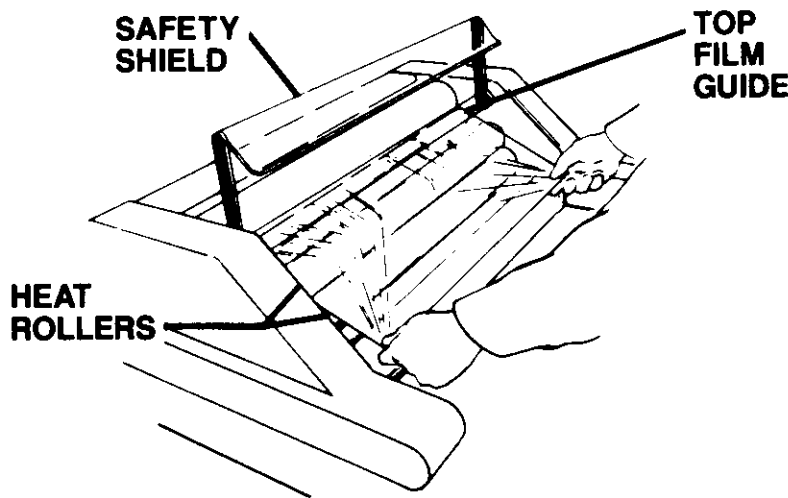

FIGURE 7
16. Unroll 2 ft. (61 cm) of film. Place film over top film guide covered with film from step 11 (see figure 7).